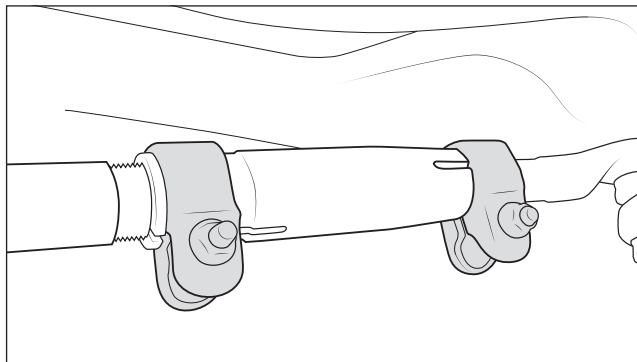

Figure 35
22. Tighten adjuster clamps to 40 ft-lbs (fig. 35). Even if the vehicle is going straight to alignment, do not drive it without the clamps or any steering input could slip the adjuster and compromise the threads.